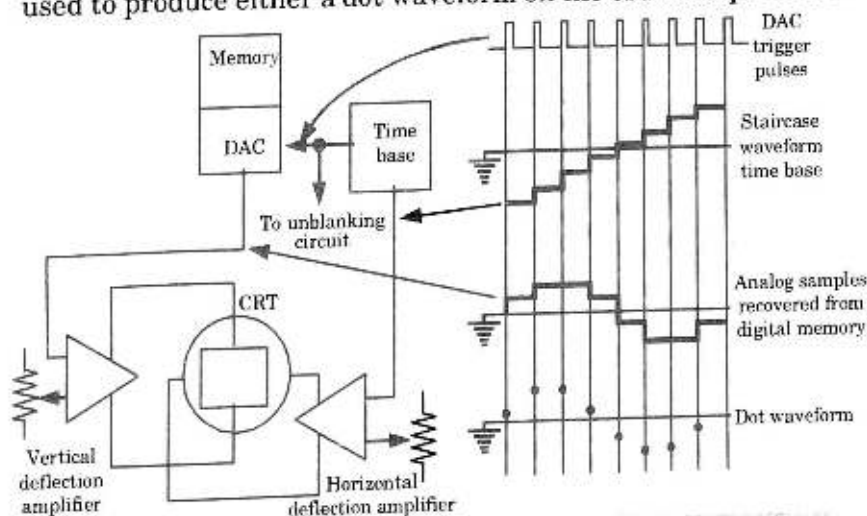

Fig. 4.8.3. Basic DSO system for displaying a stored waveform.
6. Fig. 4.8.3 shows a system for recovery of the stored information to recreate original waveform. The digital to analog converter (DAC), triggered by pulses from the time base, converts each digital sample back to analog form and passes it to oscilloscope vertical deflection amplifier.